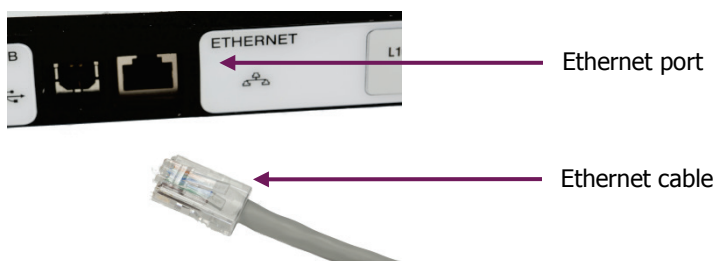

Figure 22 Ethernet cable connected to the ETHERNET port
2. Plug one end of an Ethernet cable into the ETHERNET port on the rear of the instrument (Figure 22).
NOTE: For AssureID, configure the PC network adaptor, connect your spectrometer as shown in Figure 22, start AssureID, and then run the Instrument Install Wizard (see page 42). Refer to the *AssureID Administrator's Guide* (part number L1050019) for more information.